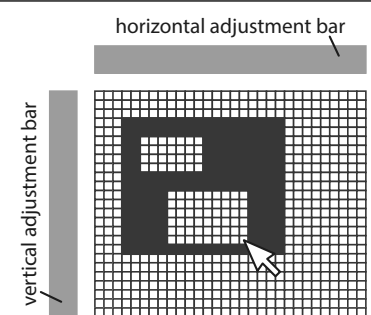

Fig. 83
- Next click and hold down the left mouse button and move the cursor (within the editing area) to delete a box, **Fig.83**.